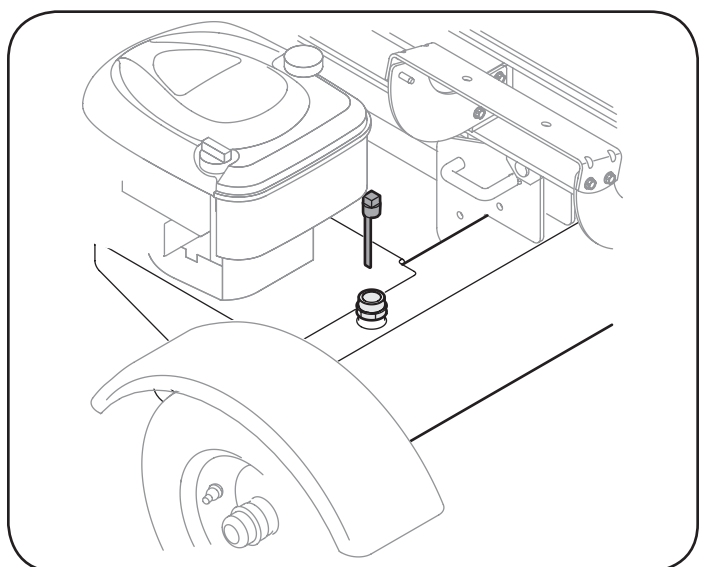

Figure 3-6
2. Remove the vented reservoir dipstick, which is located in front of the engine on top of the reservoir tank. See Figure 3-6.
4. Check the fluid level using the dipstick. See Figure 3-6. Do not overfill.